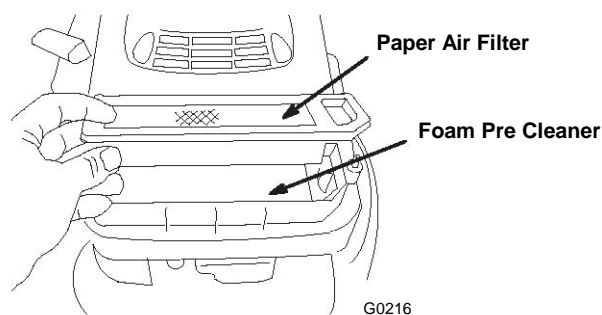

Figure 17
5. Remove the paper air filter and discard it as required (Fig. 17)